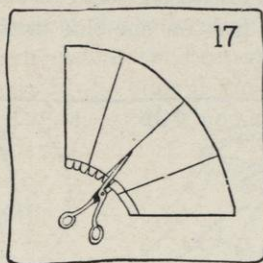

FIG. 17.
- (9) Slash from inner edge of crinoline to the headsize line at intervals of $\frac{1}{2}$ inch as shown in Figure 17.